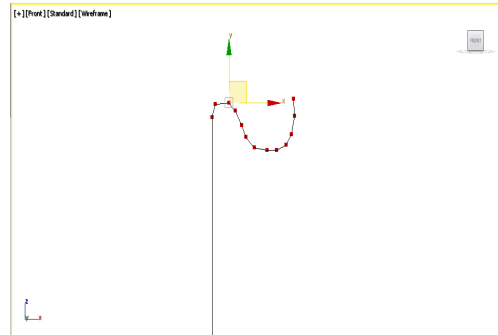

Figure 5-26 The selected vertices
5. Select the upper vertices of *pillar*, as shown in Figure 5-26 and then right-click; a quad menu is displayed. Choose **Smooth** from the quad menu; the upper portion of *pillar* is smoothened. Select the **Vertex** sub-object level again to exit the sub-object mode.